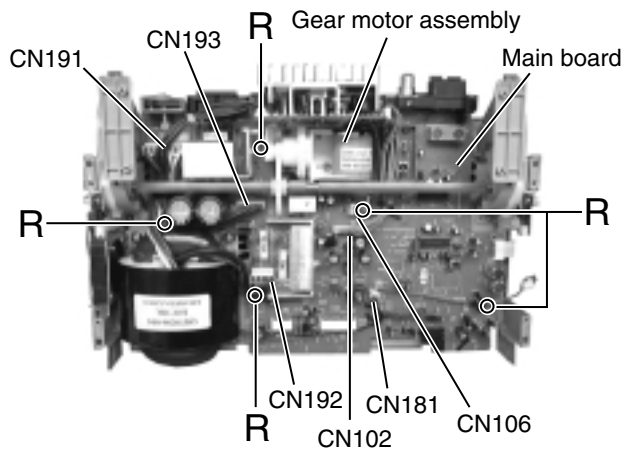

Fig.26
■Removing the main board (See Fig.26)